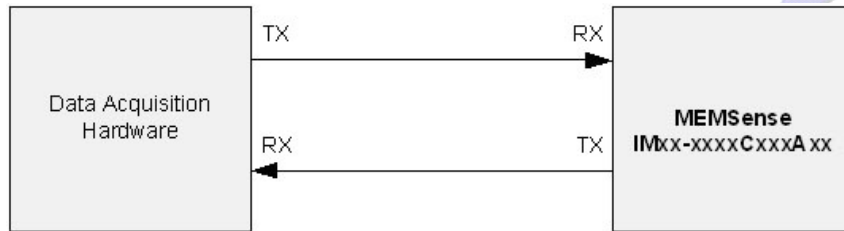

Figure 2.3 – 56k Full-duplex asynchronous connection diagram
The master device may either parse out the initial message structure for the message size (X), and read X bytes from the slave, NACK the final byte and send a stop, or wait for a stop from the slave nIMU (sent as soon as the checksum has been shifted out). A master-receiver sequence is shown in figure 2.3. Slave device SCL and SDA ports are open drain, and pull-ups are the responsibility of the acquisition system. Both lines are 5 v tolerant with a V_{IH} minimum of 2.1 v. A typical I²C/SMBus connection is shown in figure 2.4. Care must be taken to minimize line capacitance.